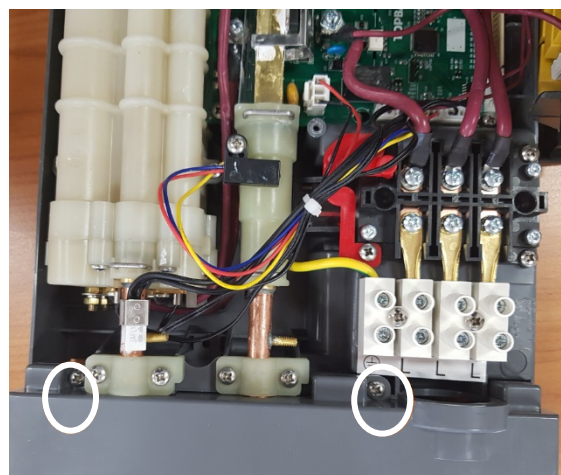

Figure 10: Removing Grey Cover
- c) Remove the grey cover at the bottom of the heater by removing two screws as marked in Figure 10 on page **25** to access the inlet/outlet and electrical connections.